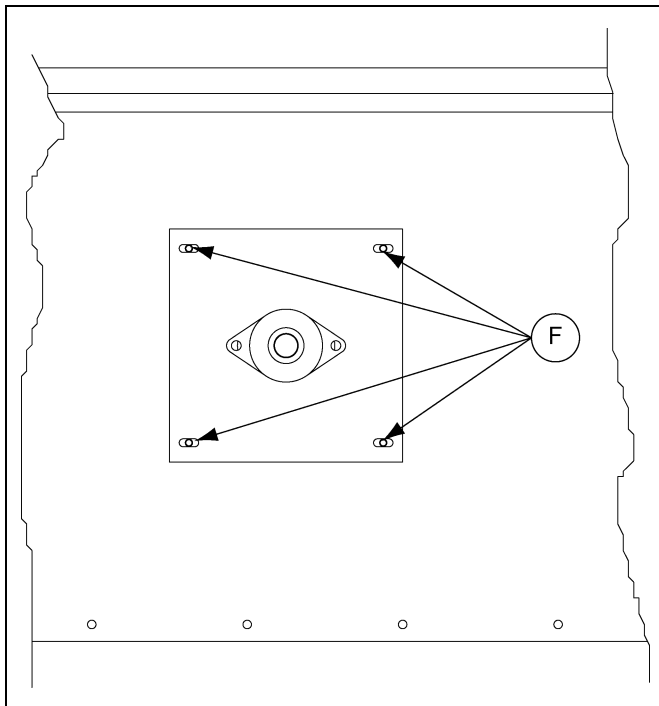

Figure 6Y
5. Adjustment of the idlers is done by loosening eight (8) bolts. These bolts hold the bearings in place and are located on both sides of the conveyor sections (four (4) on each side). After loosening these bolts, the end of the idler can shift either forward or backward. (See Figure 6Y.)